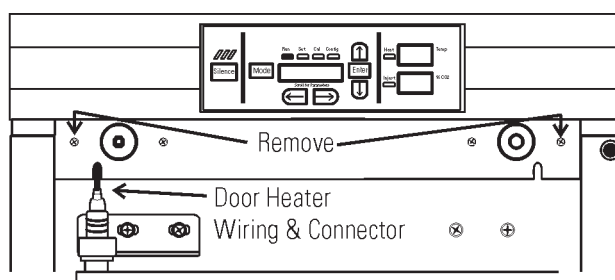

Figure 6-3. Screw Locations
2. Open the exterior cabinet door and remove the two screws shown in Figure 6-3.
- When wiring is completed, slide the electronics drawer back in being very careful to place the door heater cable back into the provided slot so that the drawer does not pinch the cable. See Figure 6-3.